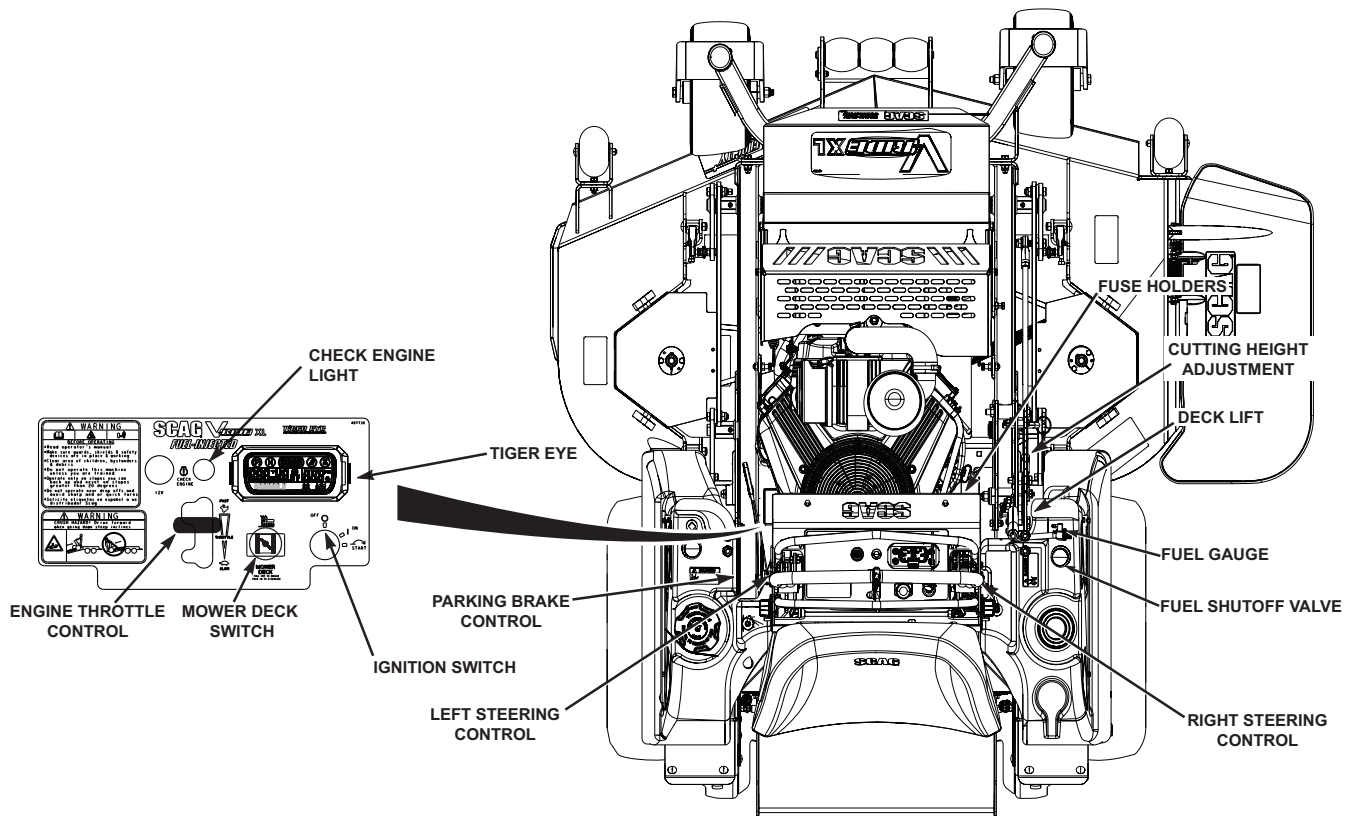

Figure 4-2. Controls and Instruments
1. **Ignition Switch (Figure 4-2).** For electric start models, the ignition switch is used to start the engine and has three positions; OFF, ON, and START.
2. **Mower Deck Switch (Figure 4-2).** Use to engage and disengage the mower drive system. Pulling up on the switch will engage the deck drive. Pushing down on the switch will disengage the deck drive.
3. **Engine Choke Control (Figure 4-2).** Use to start a cold engine.
4. **Engine Throttle Control (Figure 4-2).** Use to control the engine speed. Pushing the lever forward increases engine speed. Pulling the lever back decreases engine speed. Full back position is the IDLE position. Full forward is the cutting position.
5. **Check Engine Light (Figure 4-2).** Indicates the operation of the engine sensors on the Fuel Injection Engines (EFI). If a problem occurs with a sensor on the engine, the light will flash a code. See your Authorized Scag Power Equipment Dealer for diagnosis and repair.
6. **Left Steering Control (Figure 4-2).** Use to control the mower's left wheel when traveling forward or reverse. See Section 4.5 for further details regarding the mower's travel controls.
7. **Right Steering Control (Figure 4-2).** Use to control the mower's right wheel when traveling forward or reverse. See Section 4.5 for further details regarding the mower's travel controls.
8. **Parking Brake Control (Figure 4-2).** Use to engage and disengage the parking brakes and lock the steering handles in neutral. Pull the lever back to engage the parking brakes. Push the lever forward to disengage the parking brakes.
9. **Deck Lift Lever (Figure 4-2).** Use to raise and lower the cutter deck.
10. **Cutting Height Adjustment (Figure 4-2).** Use to set the cutter deck at the desired cutting height.
11. **Fuel Tank Gauge (Figure 4-2).** Indicates the amount of fuel in the fuel tank.
12. **Fuse Holders (Figure 4-2).** Two 20-amp fuses protect the mower's electrical system. To replace fuses, pull fuse out of the socket and install a new fuse.
13. Hourmeter (Figure 4-2) SVR11-32/36A Only.
14. Fuel Shutoff Valve (Figure 4-2). Located on top of the fuel tanks. Use to shut off fuel supply to the engine. Rotate the valve counter clockwise to supply fuel from the tank to the engine. Rotate the valve clockwise to shut off the fuel supply to the engine.